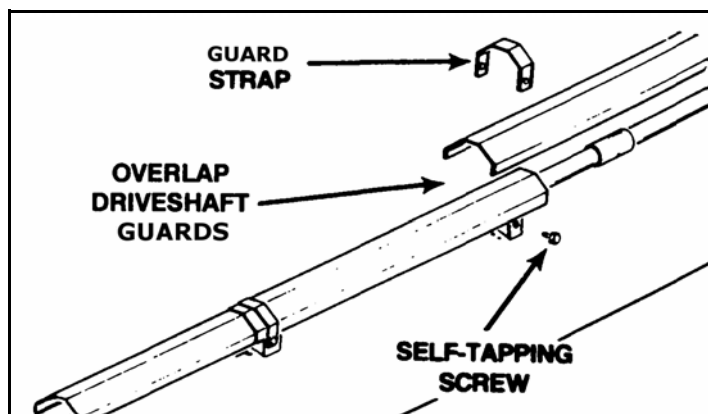

Figure 3.7
1. Start from bottom end and working towards upper discharge end of auger. (Shielding is installed working from the first bearing above the engine carriage-attach bracket up to the discharge end.) Guard must overlap at the bearing support brackets (Figure 3.7).